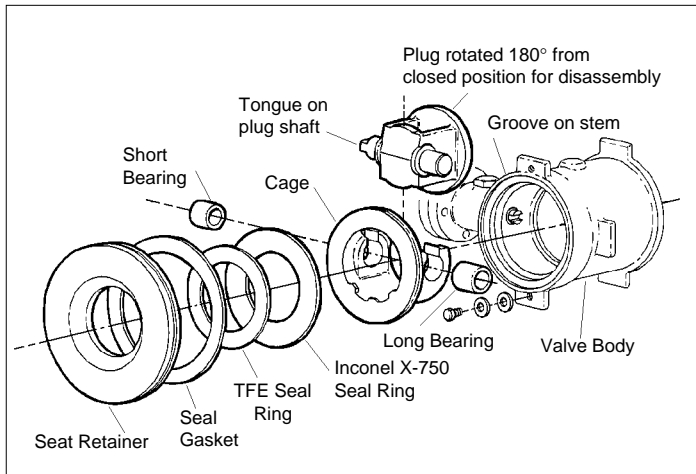
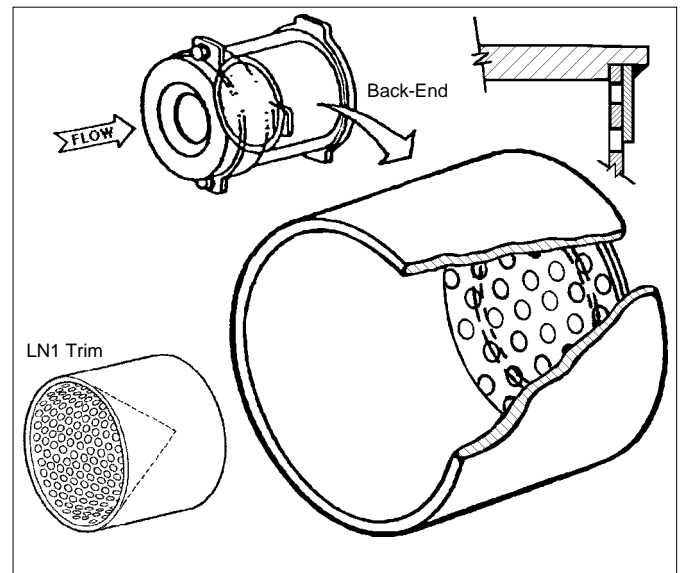

FIGURE 4: Quick Change Trim Parts
FIGURE 6
B. For ATC-FO Valves without handwheel (58) assembly: Pressurize actuator to levels indicated per previous Subsection 3.a. to properly align groove in stem subassembly (7) to mate with the tongue on the plug (6).
1. Install LN1/4 “lo-noise” insert (25) or “abrasion sleeve” insert (26) into the body (1) cavity before inserting the cage/plug subassembly (2)(4)(5)(6). Ensure that the insert (25)(26) is properly located within the groove located in the back-end of the body (1)
NOTE: The point of the cone on the lo-noise insert LN1 (25), always points away from the plug, see Figure 6. For proper orientation of LN2, LN3 or LN4 trims, also see Figure 6.
- If at the body assembly (BA) level, ensure that the stem subassembly (7) is pulled back into the bonnet of the body (1) so that the stem (7) is in contact with the retainer sleeve subassembly (8).
- Place plug (6) into cage (2). The orientation must be such that the short stub shaft of the plug (6) with the machined tongue extends through the flat side of the cage (2) toward the stem (7). The plug (6) must be rotated 135° to 180° open before the plug (6) stub shafts will slip into the cage's (2) bearing (4)(5) slots. See figures 4 and 5.